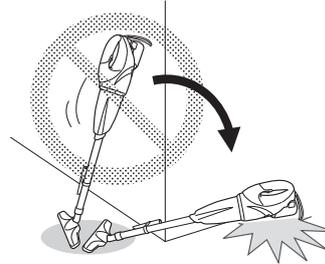

Fig. 20
- Do not stand the appliance against a wall without using the strap to fix it in place. (Fig. 20)